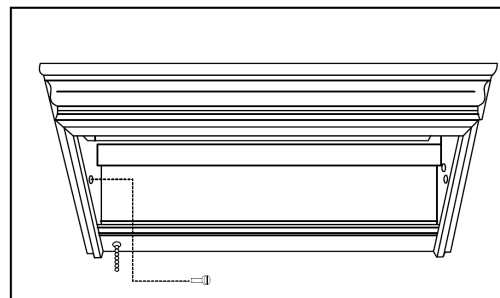

Figure 2
3. Refer to Figure 2, and remove and retain the two screws securing the tray to the housing.